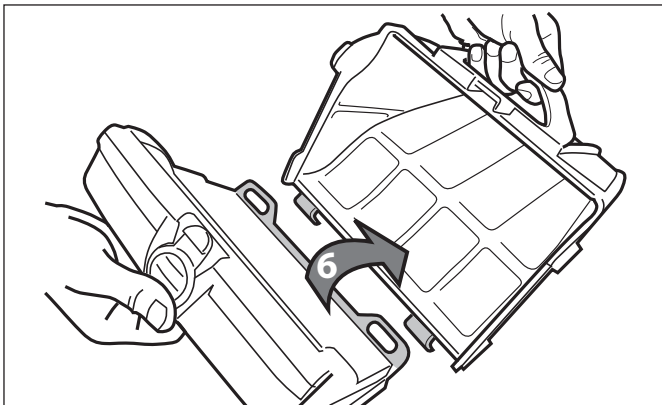

Figure 24. Remove Filter Canister
6. Separate the filter canister from the filter support (6), as shown in Figure 24.